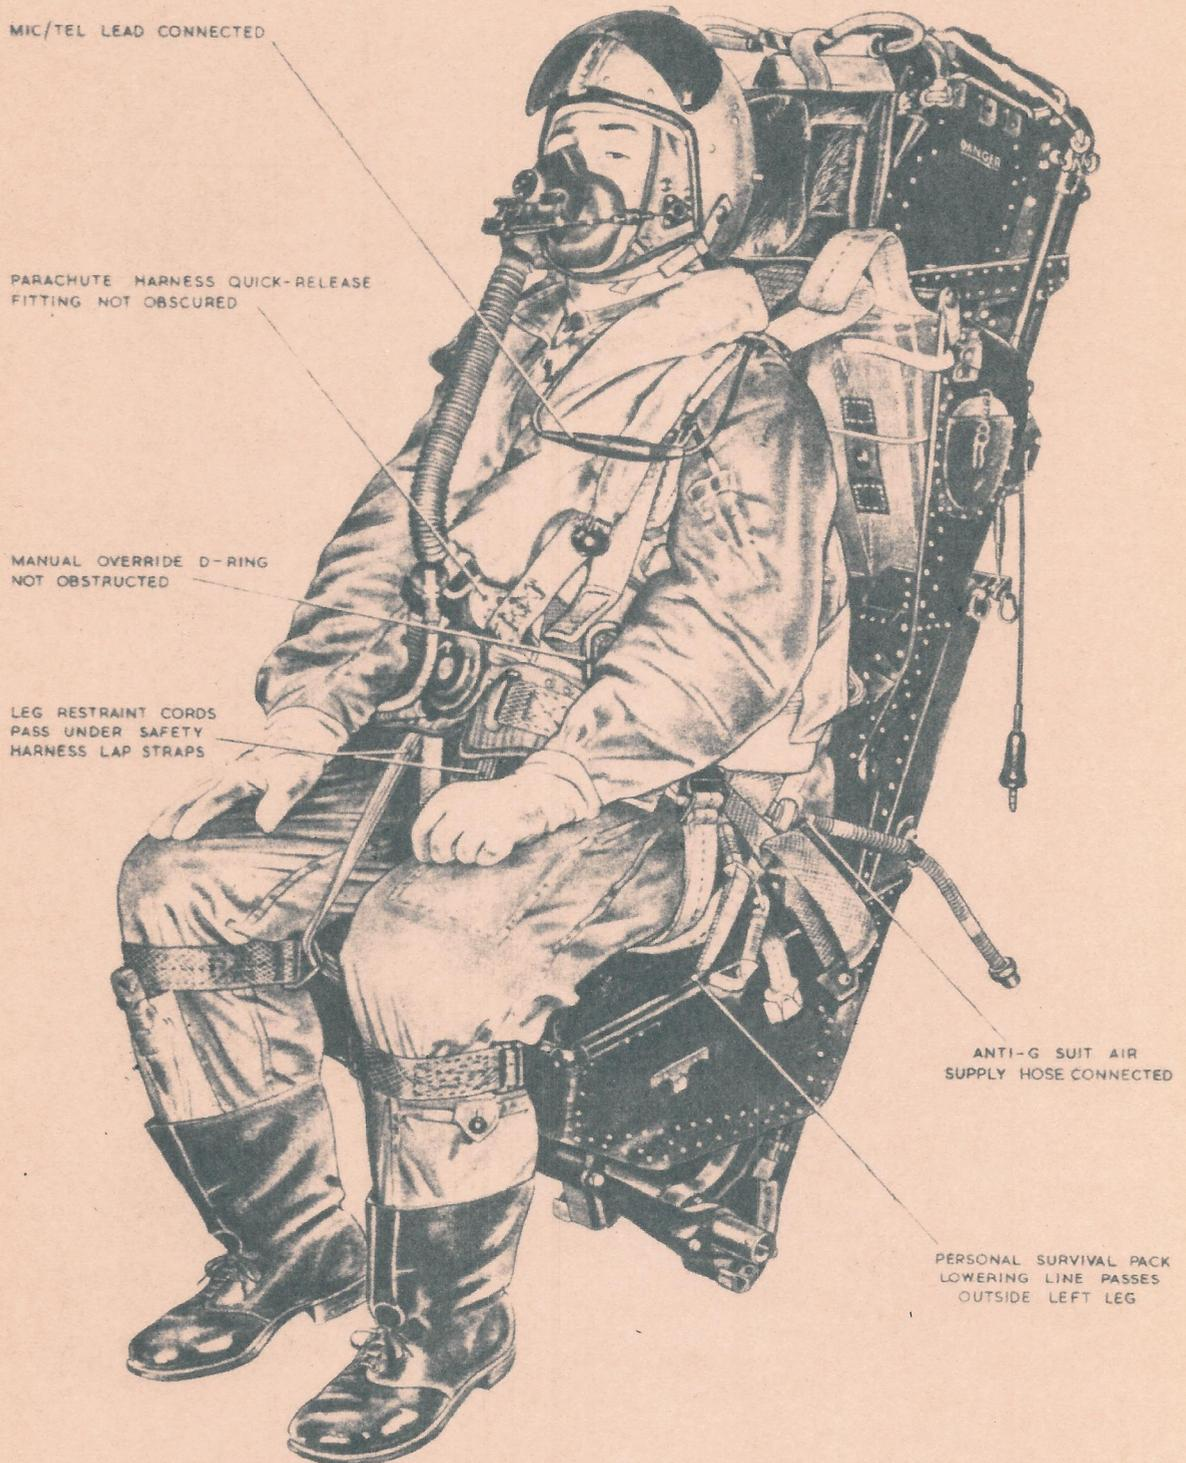

Fig. 7. The seat occupied (2)
- (1) *If the garters are stored in the flight office, they may be fitted to the legs prior to entering the cockpit.*
- (2) *A flying suit with the garters already fitted in the legs is also available. If this type of suit is used, item (2) is not applicable.*
- (3) Connect the personal survival pack lowering line to the life jacket, ensuring that the quick-release coupling is below the level of the parachute harness waist-band and that the line passes outside the left leg, as shown in fig. 7. Tuck the surplus line between the pack and the side of the seat pan.
- (4) Connect the anti-g suit air supply hose to the suit. Route the hose outside the harness straps as shown in fig. 7.
- (5) Connect and tighten the parachute harness, ensuring that the shoulder straps pass under the folds of the life jacket stole and that the quick-release fitting is positioned as high as possible compatible with comfort. ◀ Insert the safety clip (if provided) behind the disc knob of the quick-release fitting. ▶